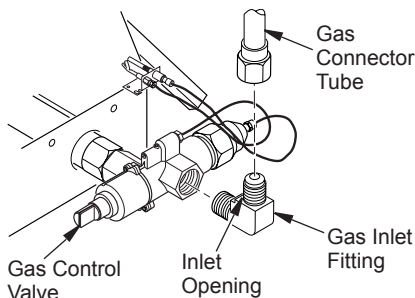

Figure 10 - Installing Inlet Fitting and Gas Connector Tube
3. Install inlet fitting into inlet opening of gas control valve (see Figure 10). Use thread sealant on male pipe threads.